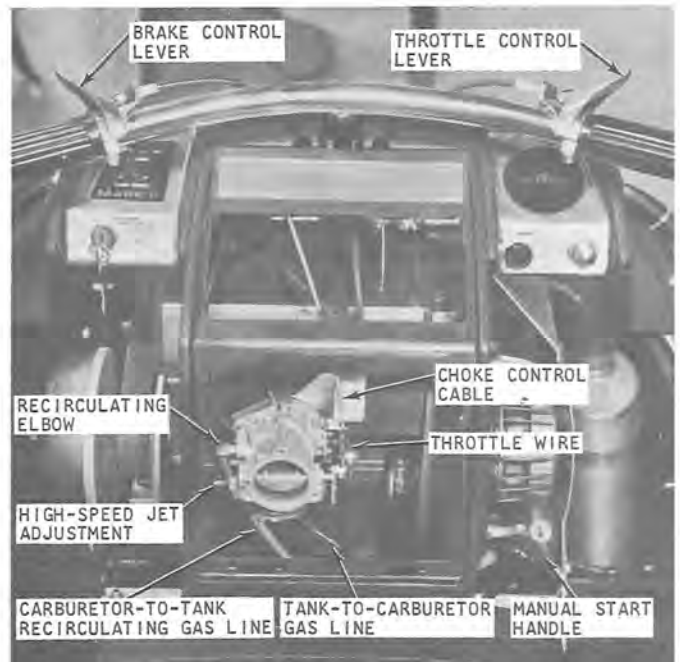

Figure 8 —Mark V Only
- Loosen throttle- and choke-control cable adjustment screws and release both cables at carburetor (see figure 8). Do not misplace throttle-wire reinforcement.
● **TO ADJUST CARBURETOR** – Close the high-speed jet shown in figure 8 (**DO NOT FORCE**). Then open as shown in the carburetor adjustment chart, figure 9.